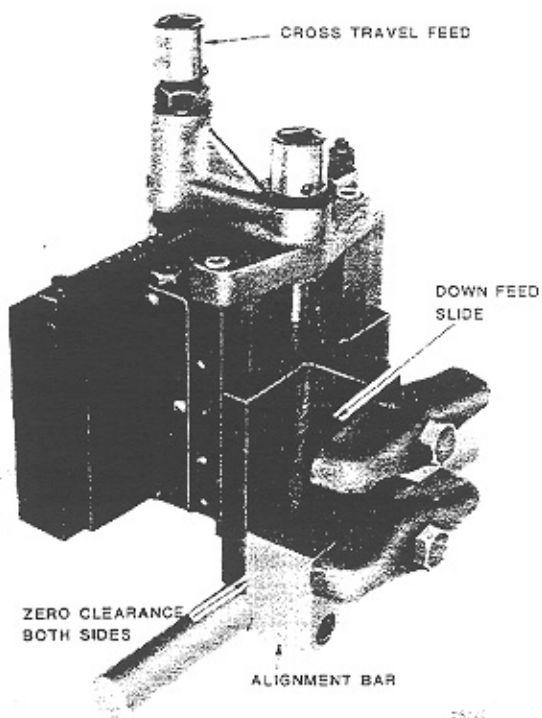

Fig. 14 - Commutator Grinder Alignment Bar Installation
1. Install alignment bar on the grinder down feed slide. Check the alignment bar contact to the feed slide for zero clearance with a thickness gauge. Refer to Fig. 14. Any clearance at either side of the alignment bar contact surface indicates the bar is not parallel to the grinder. Refer to Service Data for alignment bar and grinder part numbers.
2. Install the grinder with the alignment bar on the adapter as shown in Fig. 14.